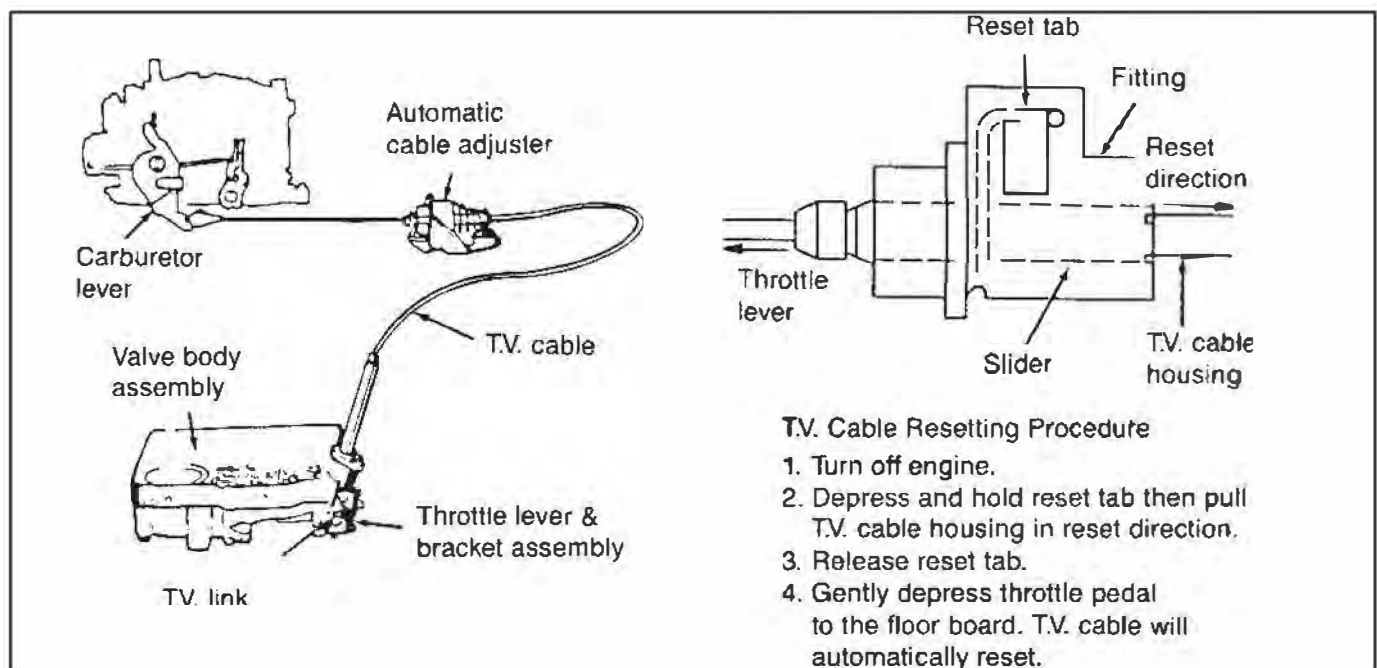

Figure 13
2. Check TV Cable adjustment (**See Fig. 13**).